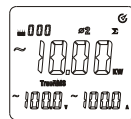

Figure 8-4
- As shown in Figure 8-4, please press “ Σ ” key to measure total three-phase power. Current measured power of the 2nd phase location also shall be calculated and saved.